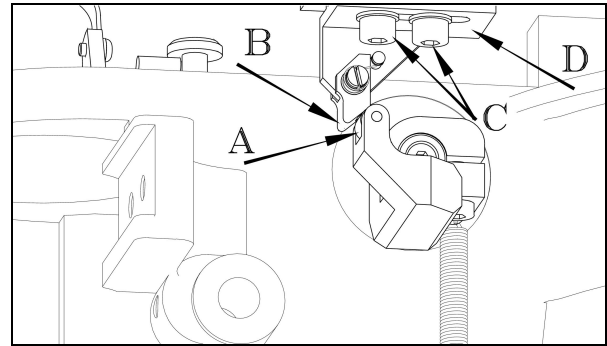

Fig 1
8. The following adjustment controls the timing of the trimming cycle. Refer to Fig 1.